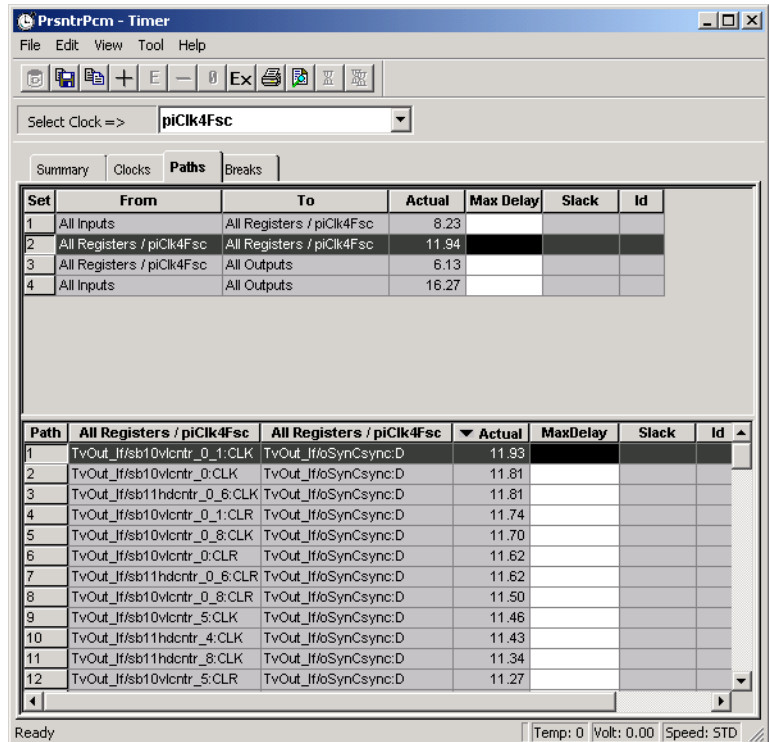

Figure 3-5. Timer's Paths Tab
3. In Timer, click the *Paths* tab, as shown in Figure 3-5.